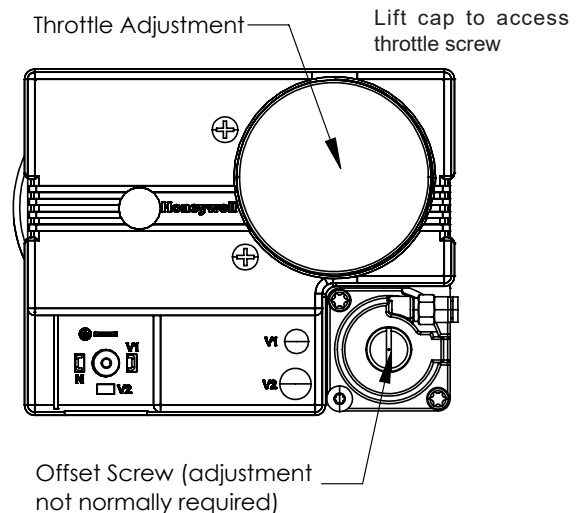
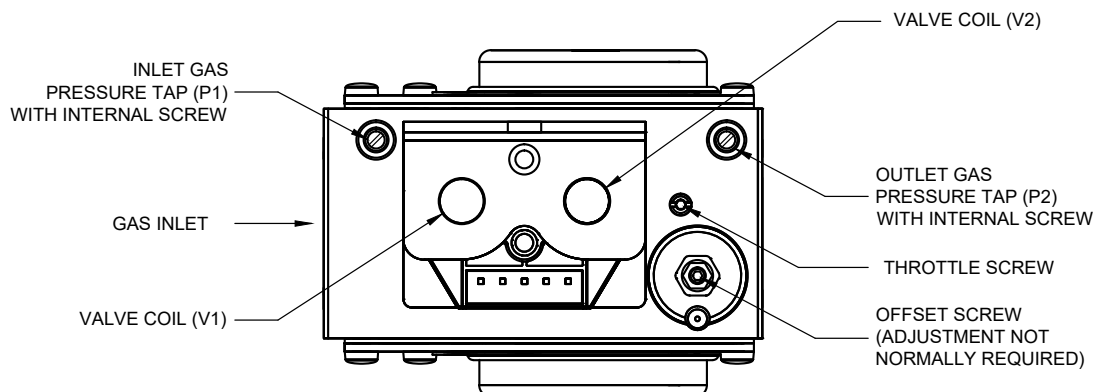

Figure 26: CTD 500-1000L Gas Valve Adjustment
Figure 27: CTD 400 Gas Valve Adjustment
- d. If high fire O_2 is too high (CO_2 is too low), decrease O_2 (increase CO_2) by turning the throttle screw counter-clockwise in 1/4 turn increments and checking the O_2 (or CO_2) after each adjustment. Refer to Figure 26 or Figure 27 for location of throttle screw. Verify CO air free is less than 200 ppm.